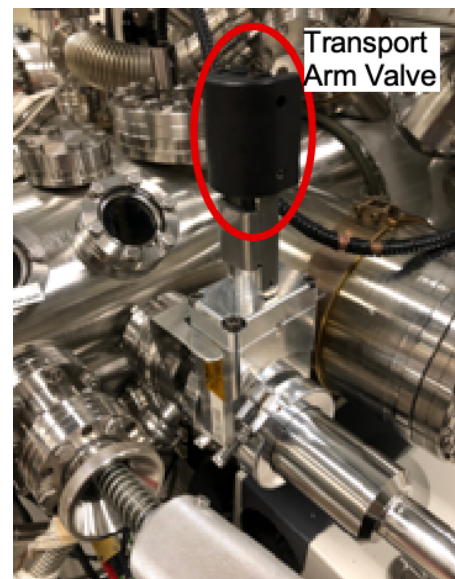

Figure 6 Transport arm attached to the KF Flange with transport arm valve handle facing up.
- 16) As soon as pressure gauge on LL reads 7.5×10^2 Torr (~90 seconds), i.e., the LL is still under a slight vacuum, start the LL turbo pump again and open the hand valve on PTS, Figure 6, the handle facing up, **NOT THE VALVE to STC FACING DOWN!!!!**)
- c. Hand valve on PTS (the one facing up) is open, Figure 6.
- 22) Fully retract PTS’s arm back into its chamber, lock the magnet, and close the PTS valve, Figure 6.